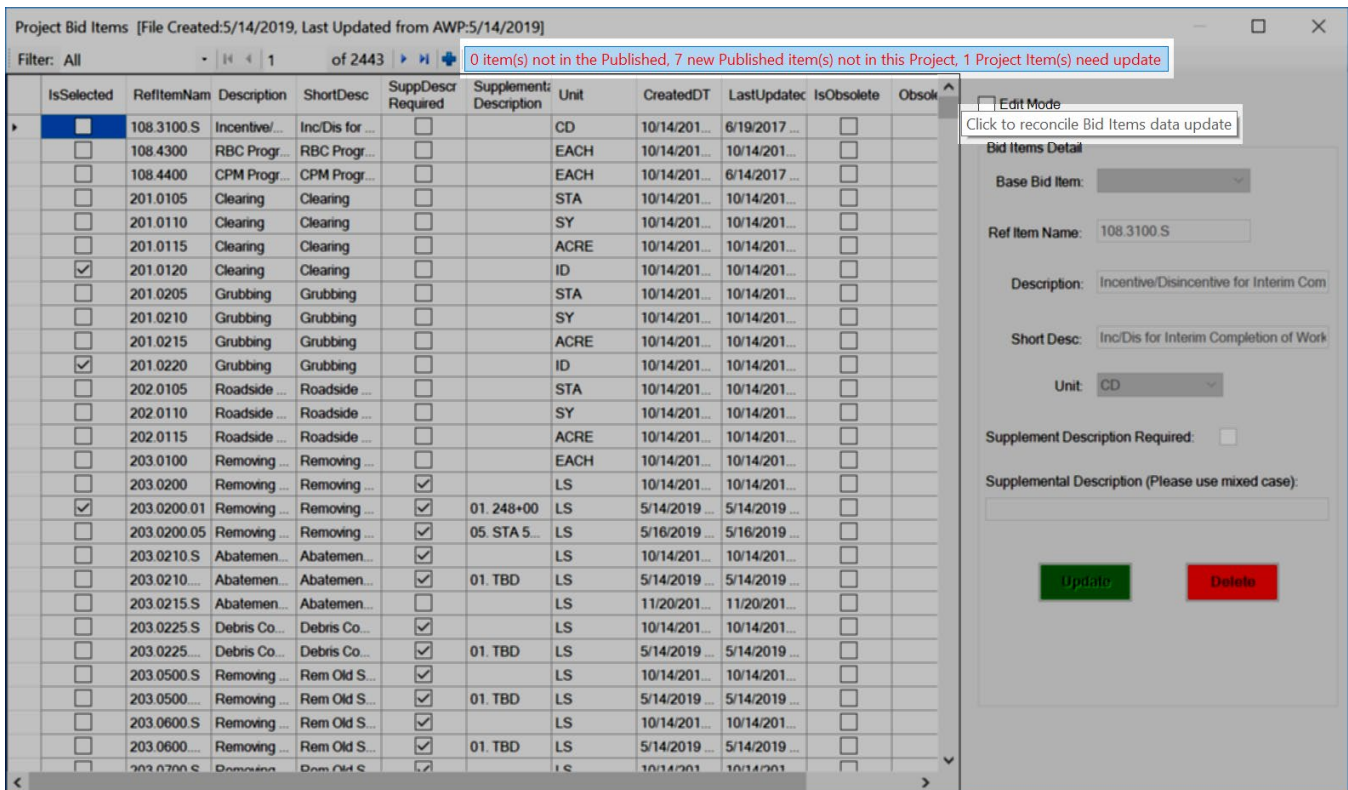

Figure 3.5 Reconciliation Tool in “Project Bid Items” dialog box.
Most projects will not be designed in less than a year which requires the need to contend with WisDOT’s yearly updates to its Standard Specification list of bid items and Standardized Special Provision items. Although users are unable to manually add or delete standard bid items, Q2P does have a **Reconciliation Tool** available (Figure 3.5) to compare the list of bid items in the Q2P workbook with the current master list of bid items on the AWP database server. This tool also allows users to update their **Project Bid Item** list with any new bid items from year to year.
1. Select **Q2P > Data > Project Bid Items**. If there are any changes, users will notice a string of red text (Figure 3.5) next to the blue “+” in the “Project Bid Items” dialog box.